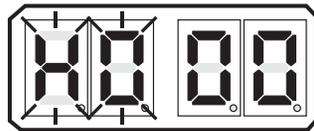

Figure 10-3: Display Troubleshooting Function Blinking
- D Depress and hold the Left and Right Push Buttons simultaneously until the H0 begins to blink. (Figure 10-3: Display Troubleshooting Function Blinking) Release the Push Buttons; the applied battery voltage will now be displayed: